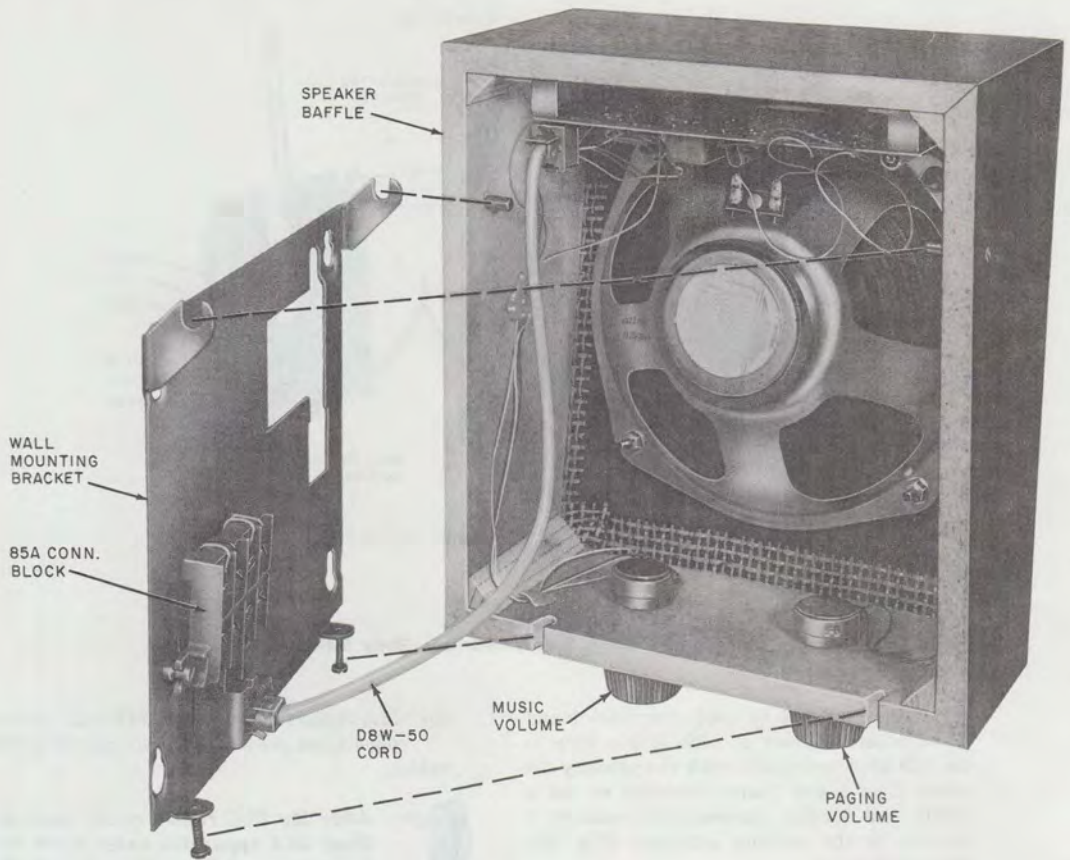

Fig. 30—109A Loudspeaker Set (New Model)
(Fig. 30). Unplug the D8W cord from the 85A block.
- (5) While holding the loudspeaker baffle up near the wall bracket, plug the free end of the D8W cord into the modular jack of the 85A block (Fig. 30).
- (6) Mount the loudspeaker baffle on the wall bracket by hooking the two pins on the inner sides of the baffle into the two mounting slots of the wall bracket. Press the baffle down against the bracket so that the two slots in the lower edge of the baffle fit over the two locking screws of the wall bracket; tighten the screws.
- (7) After all installation is complete, adjust and test each loudspeaker as described in paragraph 3.44.